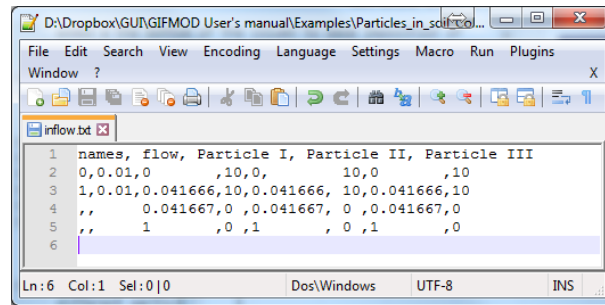

Figure 4.1: Inflow file for particle transport in soil example
6. **Inflow file:** Here we create the inflow file. It is assumed that the flow rate is constant and equal to  $0.01m^3/day$  which results in a velocity of  $2.5m/day$  over the entire experiment which takes 1 day and the particle concentration for all three types of particles in  $10mg/L$  for a period of 1hr and which is followed by no particles in the inflow. The inflow file will look like figure 4.1. Create or download